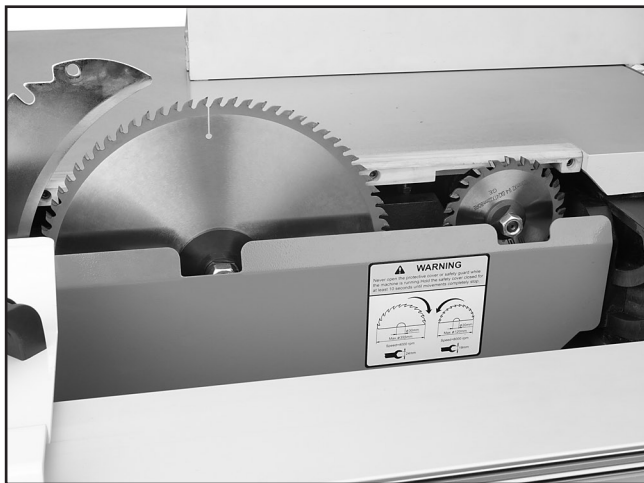

Figure 55. Internal blade guard exposed.
3. Move the sliding table all the way forward to expose the internal blade guard that covers the blades and riving knife, as shown in **Figure 55**.